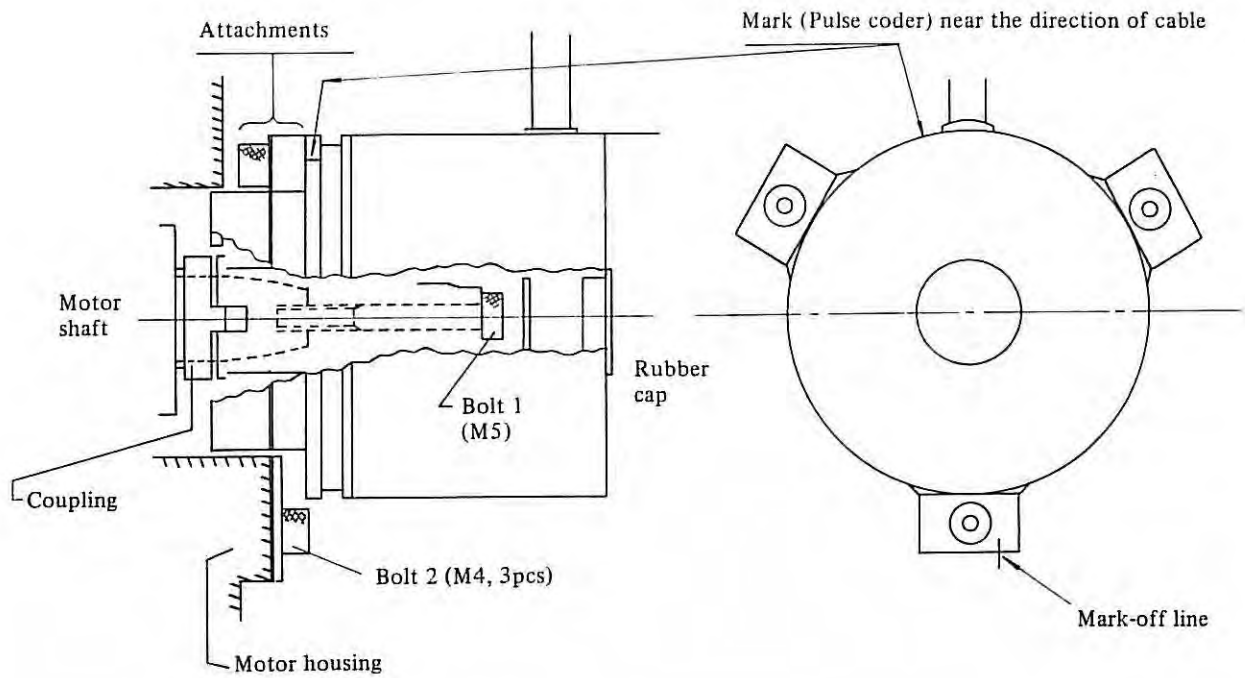

Fig. 1
- a. Remove defective pulse coder. (see Fig. 1)
- ① remove rubber cap.
- ② unfasten bolt 1.
- ③ unfasten bolt 2.
- ④ remove pulse coder (+attachments) from the motor shaft.
- ① mount pulse coder (+attachments) on the motor shaft. Notice that both a tooth (of coupling) and a groove (of pulse coder) are just fitted together. Care should be taken, for fitting length is short.
- ② connect both shaft by bolt 1.
- ③ adjust marking-off line between attachments of pulse coder and motor housing.
- ④ fasten bolt 2.